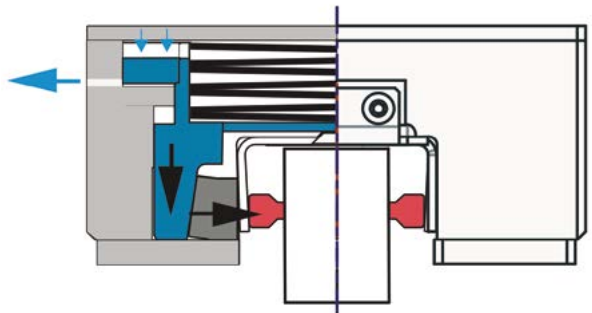

Fig. 2 Clamped profile rail with pressure relief
- By venting the stepless holding brake (SHB), the cup spring acts on the brake's clamping element. The profile rail is clamped (Fig. 2).